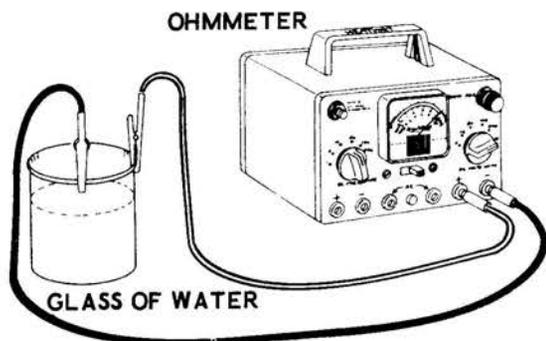

Figure 1J
- () Clip each one of the test leads of your ohmmeter to each side of an empty water glass as shown in Figure 1J and note the resistance indication. This indicates the resistance of the glass, which is too high to read on an ordinary ohmmeter.